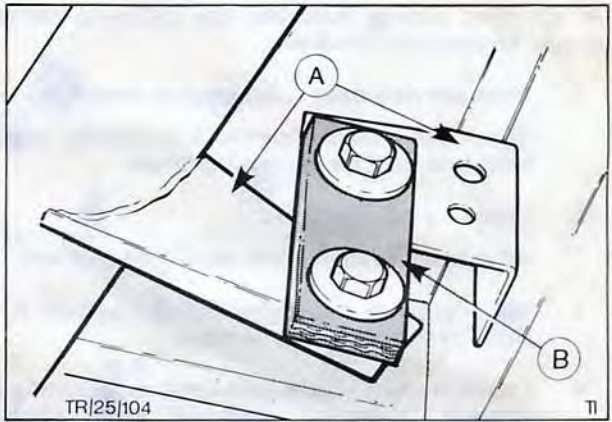

Fig. 6. Front support of rear tail pipe
3. Remove lower bolt from both support straps, Figs. 6 and 7. This allows free movement of the rear pipe.